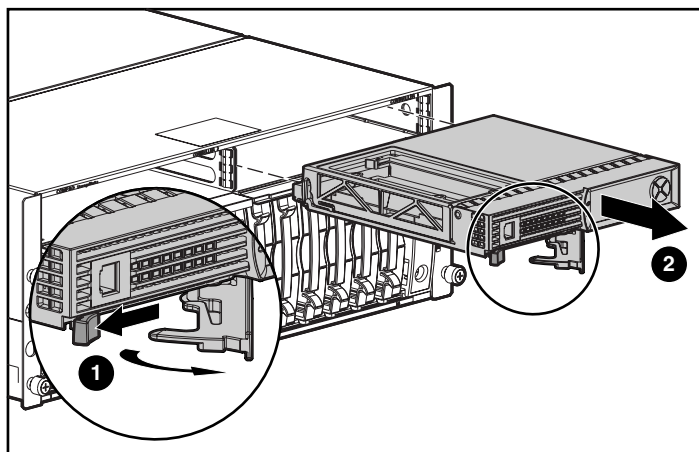

Figure 5: Removing the controller from an MSA1000
1. Press the controller’s thumb latch and pull the latch handle towards you ❶. See Figure 5.
2. Remove the MSA1000 Controller by pulling it straight out of the chassis ❷.